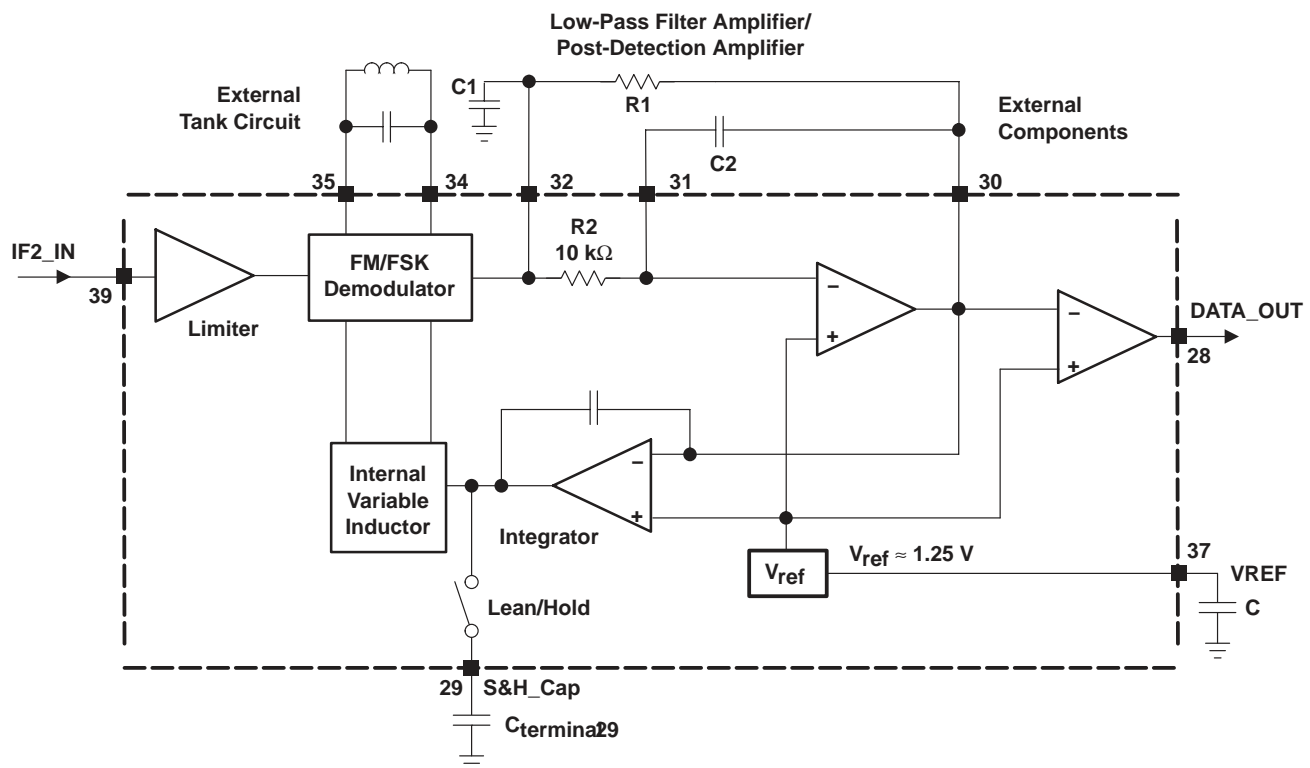

Figure 13. AFC Loop to Control the Data Slicer Decision Threshold
The demodulator is intended for analog (FM) and digital (FSK) frequency demodulation. It consists of a quadrature demodulator with an external LC tank circuit. A variable inductor, internal to the TRF6900A, operates in parallel with the external tank circuit (see Figure 13), and is used to adjust the external tank circuit's resonant frequency. If the tolerances of the external demodulator tank circuit components can provide a maximum frequency error of less than 5%, then no additional adjustments are required. As long as the device is in the *learning mode*, the internal reactance automatically fine-adjusts the resonant frequency of the external LC tank circuit. Depending on the supply voltage, the tank circuit tuning range is approximately four times the discriminator 3-dB bandwidth.
The data slicer is fundamentally a comparator. The data slicer provides binary logic level signals, derived from the demodulated and low-pass filtered IF signal, that are able to drive external CMOS compatible inputs. The noninverting input is directly connected to the internal reference voltage, V_{ref}, and the inverting input is driven by the output of the low-pass filter amplifier/post-detection amplifier. The decision threshold of the data slicer is determined by the internal reference voltage, V_{ref}. The automatic frequency control (AFC) loop scheme for the TRF6900A is shown in Figure 13.